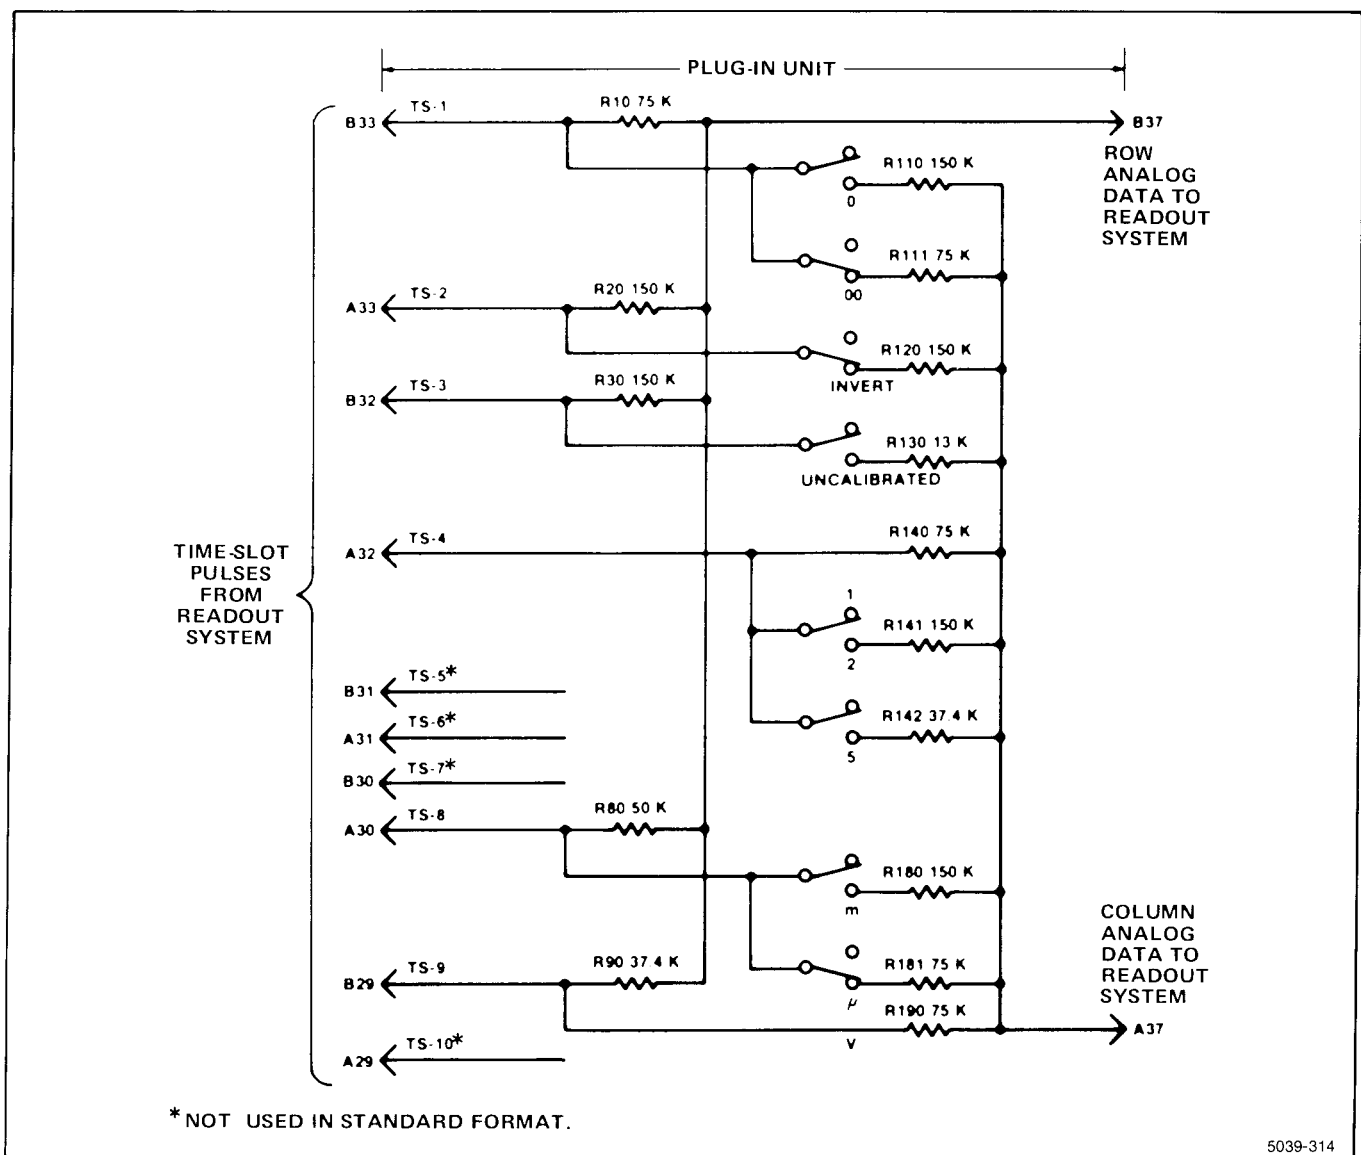
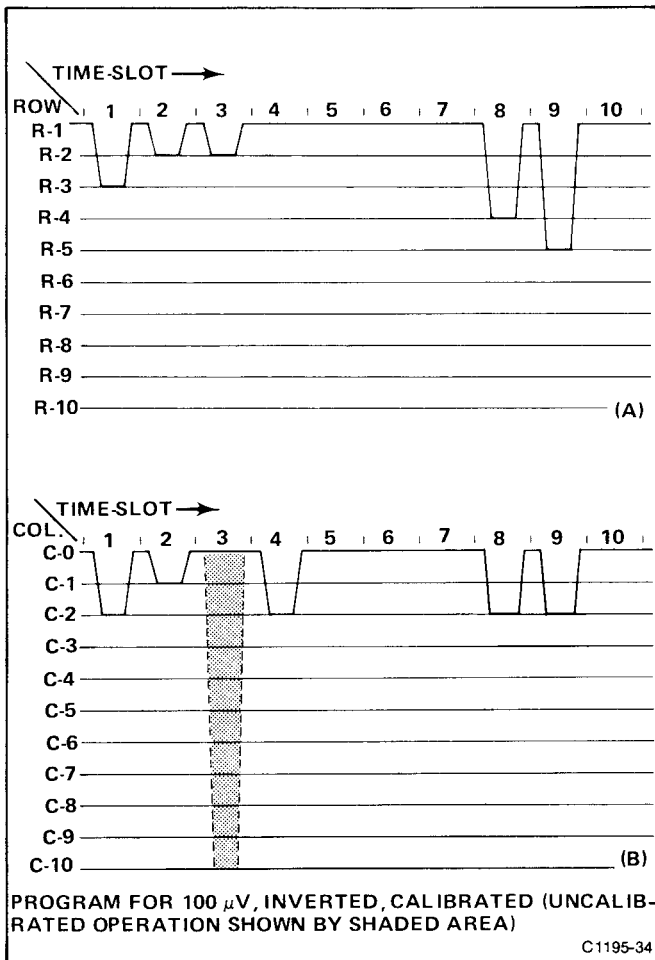

Figure 3-19. Typical encoding scheme for voltage-sensing plug-in unit. Coding shown for deflection factor of 100 microvolts.
Figure 3-20. Idealized current waveforms of a) Row analog data and b) Column analog data.
14). Each character requires two currents to define it; these currents are identified as the column current and the row current, corresponding to the column and row of the matrix. The column and row data is encoded by the programming the plug-in units. Figure 3-19 shows a typical encoding scheme using resistors for a voltage-sensing amplifier plug-in unit. Notice that the 10 TS (time slot) pulses produced by the Time-Slot Counter stage are connected to the plug-in unit. However, time-slots 5, 6, and 10 are not used by the plug-in unit to encode data when using the Standard Readout Format. (See Table 3-2 for Standard Readout Format.) The amplitude of the time-slot pulse is exactly -15 volts as determined by the Timer stage. Therefore, the resultant output current from the plug-in units can be accurately controlled by the programming resistors in the plug-in units.
For example, in Figure 3-19 resistors R10 through R90 control the row analog data, which is connected back to the Readout System. Figure 3-20 shows an idealized output current waveform of row analog data, which results from the time-slot pulses. Each of the row levels of current shown in these waveforms correspond to 100
Resistors R110 through R190 determine the column analog data. The program resistors are connected to the time-slot lines by switch closures to encode the desired data. The data, as encoded by the circuit shown in Figure 3-19, indicates a 100 microvolt sensitivity with the crt display inverted and calibrated deflection factors. This results in the idealized output current waveforms shown in Figure 3-20 at the column analog data output, terminal A37 of the plug-in interface.
In the above example, the row analog data was programmed to define which row of the Character Selection Matrix was addressed to obtain information in each time-slot. The column data changes to encode the applicable readout data as the operating conditions change. For example, if the variable control of the plug-in unit was activated, R130 would be connected between time-slot 3 and the column analog data output line. This encodes 10 units of column current (see shaded area in time-slot 3 of the waveform shown in Fig. 3-20). Since one unit of row current is also encoded during this time-
The column analog data encoded by most plug-in units can be modified by attenuator probes connected to the input connectors of amplifier plug-in units. A special coding ring around the input connector of the plug-in unit senses the attenuation ratio of the probe (with readout-encoded probes only). The probe contains a circuit that provides additional column current. For example, if a 10X attenuator probe is connected to a plug-in unit encoded for 100 microvolts as shown in Figure 3-19, an additional unit of current is added to the column analog data during time-slot 1. Since two units of current were encoded by R111, this additional current results in a total of three units of column analog current during this time-slot. Referring to the Character Selection Matrix, three units of column current, along with the two units of row current encoded by R10, indicates that the prefix should be shifted one column to the left. Since this instruction occurs in the same time-slot that previously indicated that two zeros should be added to the display and only one instruction can be encoded during a time-slot, the zeros do not appear in the display. The crt readout will now be changed to 1 mV (readout program produced by plug-in same as for previous example).
Finally, another memory within U3401 is interrogated during time-slot 8 to obtain information on whether the prefix should be changed, or left at the value that was encoded. If data has been encoded that calls for a shift in prefix, a negative-going output level is produced at pin 7. This negative level subtracts one unit of column current from the data at the input to the Column Decoder. Notice on the Character Selection Matrix of Figure 3-14 that when row 4 is programmed, a reduction of one column results in a one-column shift of the prefix. For example, with the 100 μ V program shown in Figure 3-19, if the data received from the plug-in unit called for a shift in prefix, the crt readout would be changed to 1 mV (zeros deleted by program; see Encoding the Data).